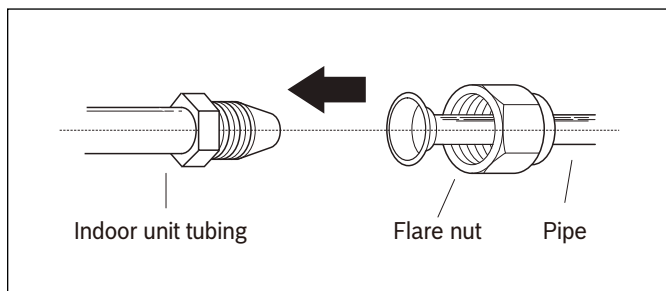

Figure 32
When bending connective refrigerant piping, the minimum bending radius is 10cm (4in). See Figure 32.
1. Align the center of the two pipes that you will connect. See Figure 32.